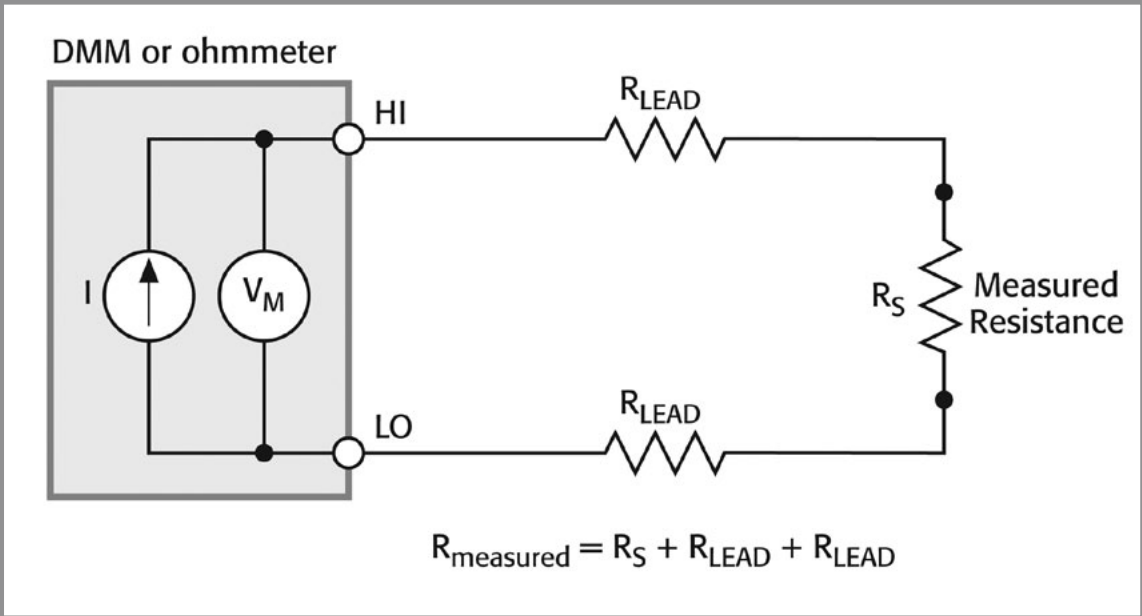
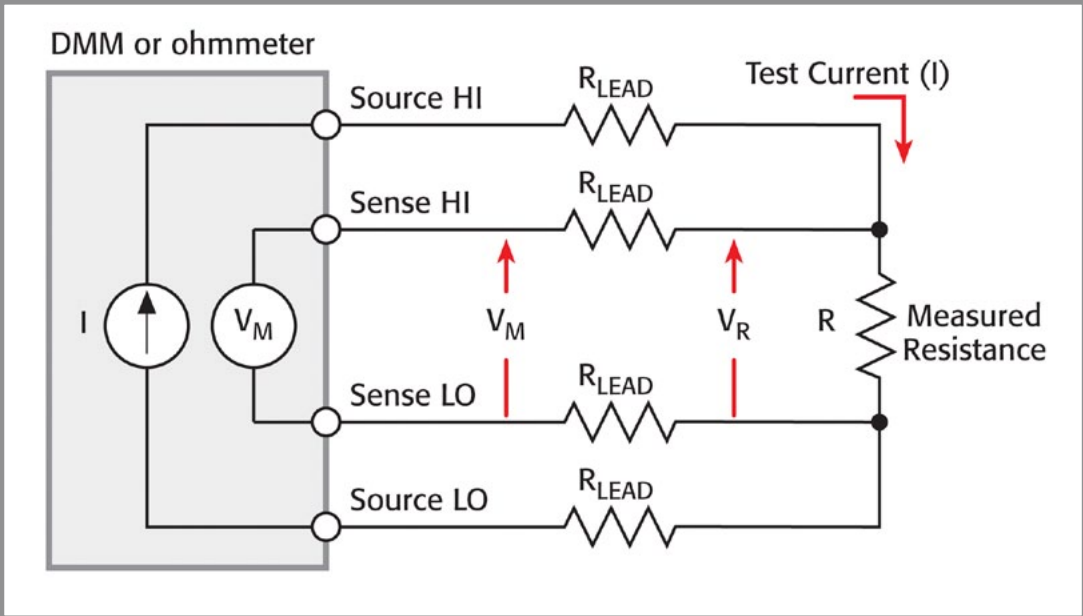

Figure 3a
Figure 3b
- **Lead resistance.** For resistance measurements, especially at lower resistances, it is important to take into account the resistance of the test leads. In the example shown in **Figure 3a**, the two-wire ohms method is being used to determine the resistance. A current source in the meter outputs a known and stable current, and the voltage drop is measured within the meter. This method works well if the resistance to be measured is very much greater than the lead resistance. However, what if the resistance to be measured is much closer to the lead resistance or even less? Using four-wire measurements (**Figure 3b**) will eliminate this problem. The voltage drop is now measured across the resistor, instead of across the resistor and leads. The input resistance of the voltmeter tends to be very high in comparison to the resistance to be measured; therefore, the lead resistances on the voltmeter path can be ignored. If, however, the resistance to be measured is very high, and approaching the resistance of the voltmeter, then an electrometer or specialized meter with extremely high input resistance may be required.